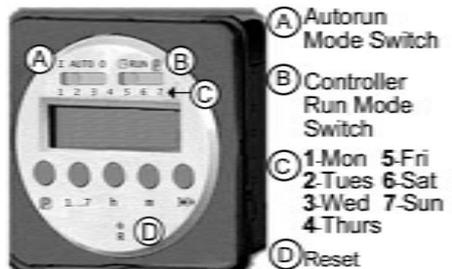

Figure 1: DTS
2. Numbers printed across the top of the LCD represent days of the week. Press the 1...7 button until the arrow at the top of the LCD screen points to the current day. See details in Figure 1.
2. Numbers printed across the top of the LCD represent days of the week. Press the 1...7 button until the arrow at the top of the LCD screen points to the correct day or group of days (see Figure 1 for details).